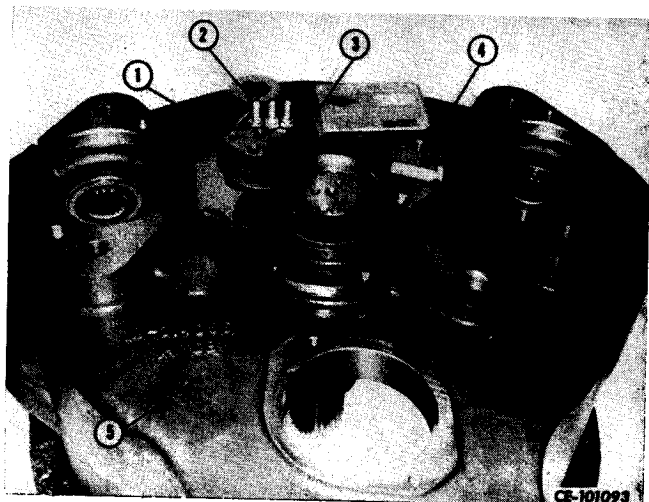

Figure 3-30
Position converter housing (5, Fig. 3-30) with output yoke (4) facing up. Remove cap screws (2) and lock plate (1) that secures retaining washer (3) to output shaft. Remove retaining washer and output yoke.